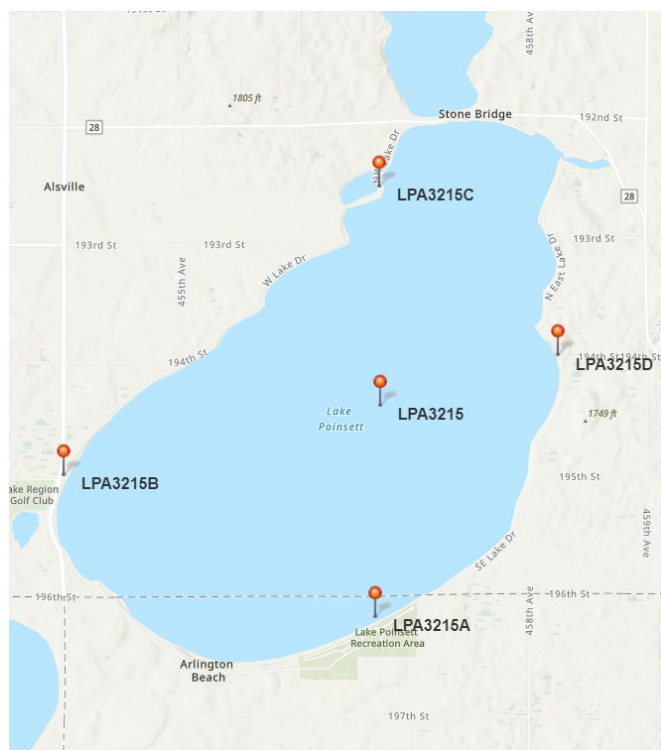

Figure 1. Lake station example.
For lake grab samples, Secchi disc measurements and water will be collected only at the mid-lake station located in the center of the lake (for example, YSC9702 in Figure 1).
- At the mid-lake station (Figure 1), remove the cap from the A bottle and rinse the bottle three times using lake water.